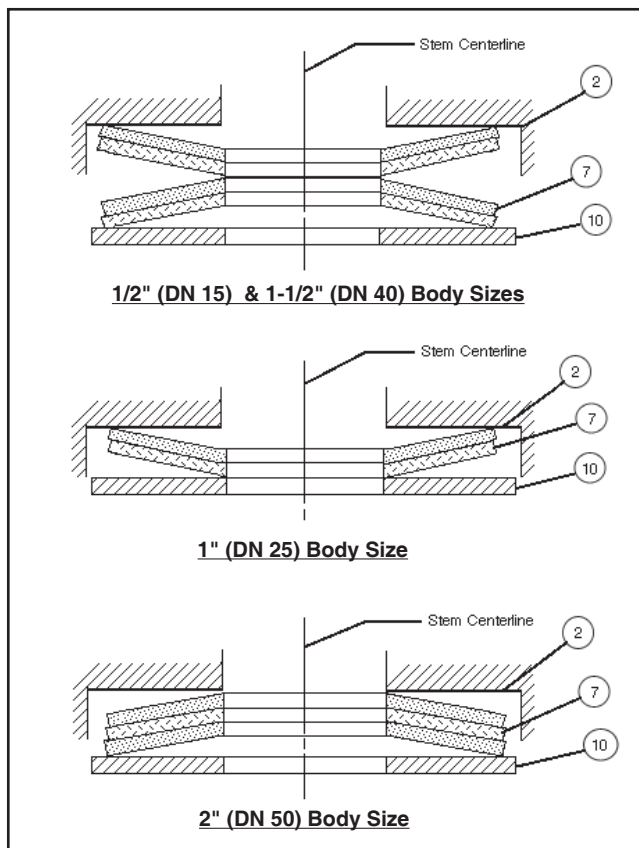

Figure 7: Belleville Spring Washer Orientation
1. Place body assembly (BA) (1) in a vise with the bonnet (2) end directed upwards.
2. Join the stem sub-assembly (9) to the bellows sub-assembly (8) (with new plug head (3) already installed) by rotating the stem's (9) lower end into embedded nut (8.2) CW (viewed from bellows (8.1) open end). Rotate the stem sub-assembly (9) as far as possible while hand-grasping the bellows (8.1) **DO NOT USE A WRENCH IN THIS OPERATION.** A light coat of Fluorolube (™ of Occidental Chemical Co.) lubricant may be applied to the engaged (threaded) end of the stem sub-assembly (9) if fluid compatible.
3. Place spacer washer (10) over the threaded upper end of stem sub-assembly (9).
4. Referring to Figure 7 for proper orientation and quantity of Belleville spring washers (7), place the spring washers (7) over the upper end of stem sub-assembly (9).
5. Position a new bonnet gasket (11) into recess of body sub-assembly (1).
6. Observe the underneath side of bonnet (2) where square recess is located. Position combined bellows sub-assembly (8) and stem sub-assembly (9) so that the anti-rotation "stop" (square part of stem) is aligned to slip into the bonnet's (2) square recess.